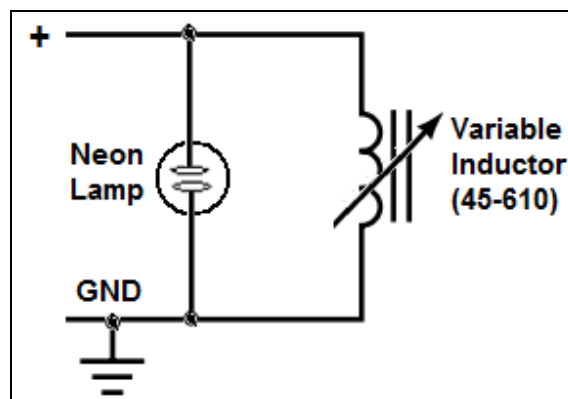

Fig. 1-2 Step 2
2. Construct the experimental circuit shown in Fig. 1-2. Connect the variable inductor in parallel with the neon lamp on the ET-3100 breadboard. Then connect a **DC** voltage to the choke as indicated. Leave the lead coming from the **GND** output terminal of the power supply disconnected. This lead will be used as a switch to connect and disconnect the DC voltages from the choke.